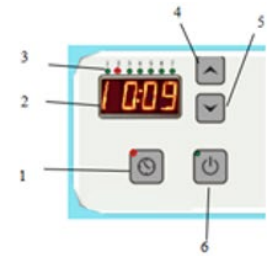

Fig. 6-4
- Click ⌚ Key (1) to save the settings (Fig. 6-4)